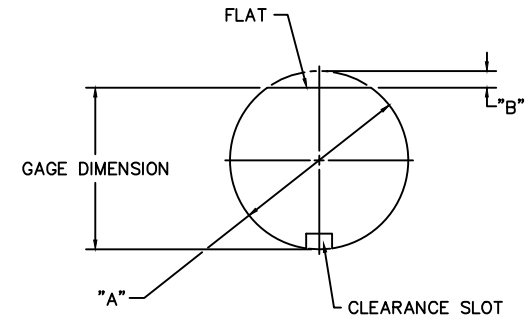

FIGURE 2-OLD DESIGN PIN SHOWN
- MEASURE THE DIAMETER "A" (FIGURE 2) USING A MICROMETER.
- ROTATE THE COLLET TO IT'S ORIGINAL POSITION (FIGURE 3A). MEASURE DOWN TO THE FLAT TO DETERMINE DIMENSION "B" (FIGURE 2).